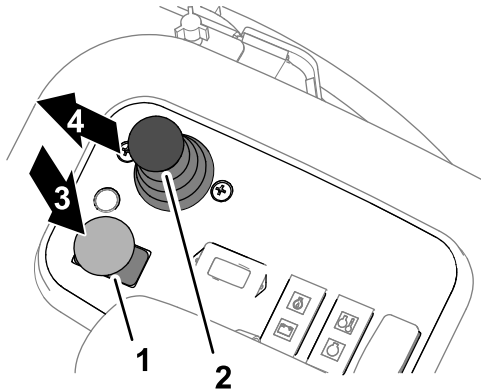

Figure 49
3. Press the cutting unit drive switch to the DISENGAGE position (Figure 49).
5. Move the lower mow/raise control lever forward (Figure 49).